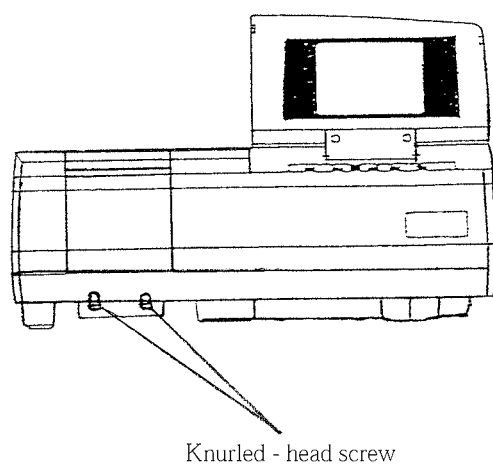

Fig.1.1 Fix the Sample Compartment
- (1) Confirm that the power switch of the temperature controller is OFF (in which “O” is pushed in).
- (2) Confirm the supply voltage indicated on the rear of the main unit.
- (3) Connect the power cable offered as an accessory to the connector provided on the rear of the temperature controller.
- (4) Connect the power cable to the power outlet.
- (5) Attach the sample compartment to the spectrophotometer main unit, then fix it by tightening knurled screws provided under the sample compartment. (refer to Fig.1.1)